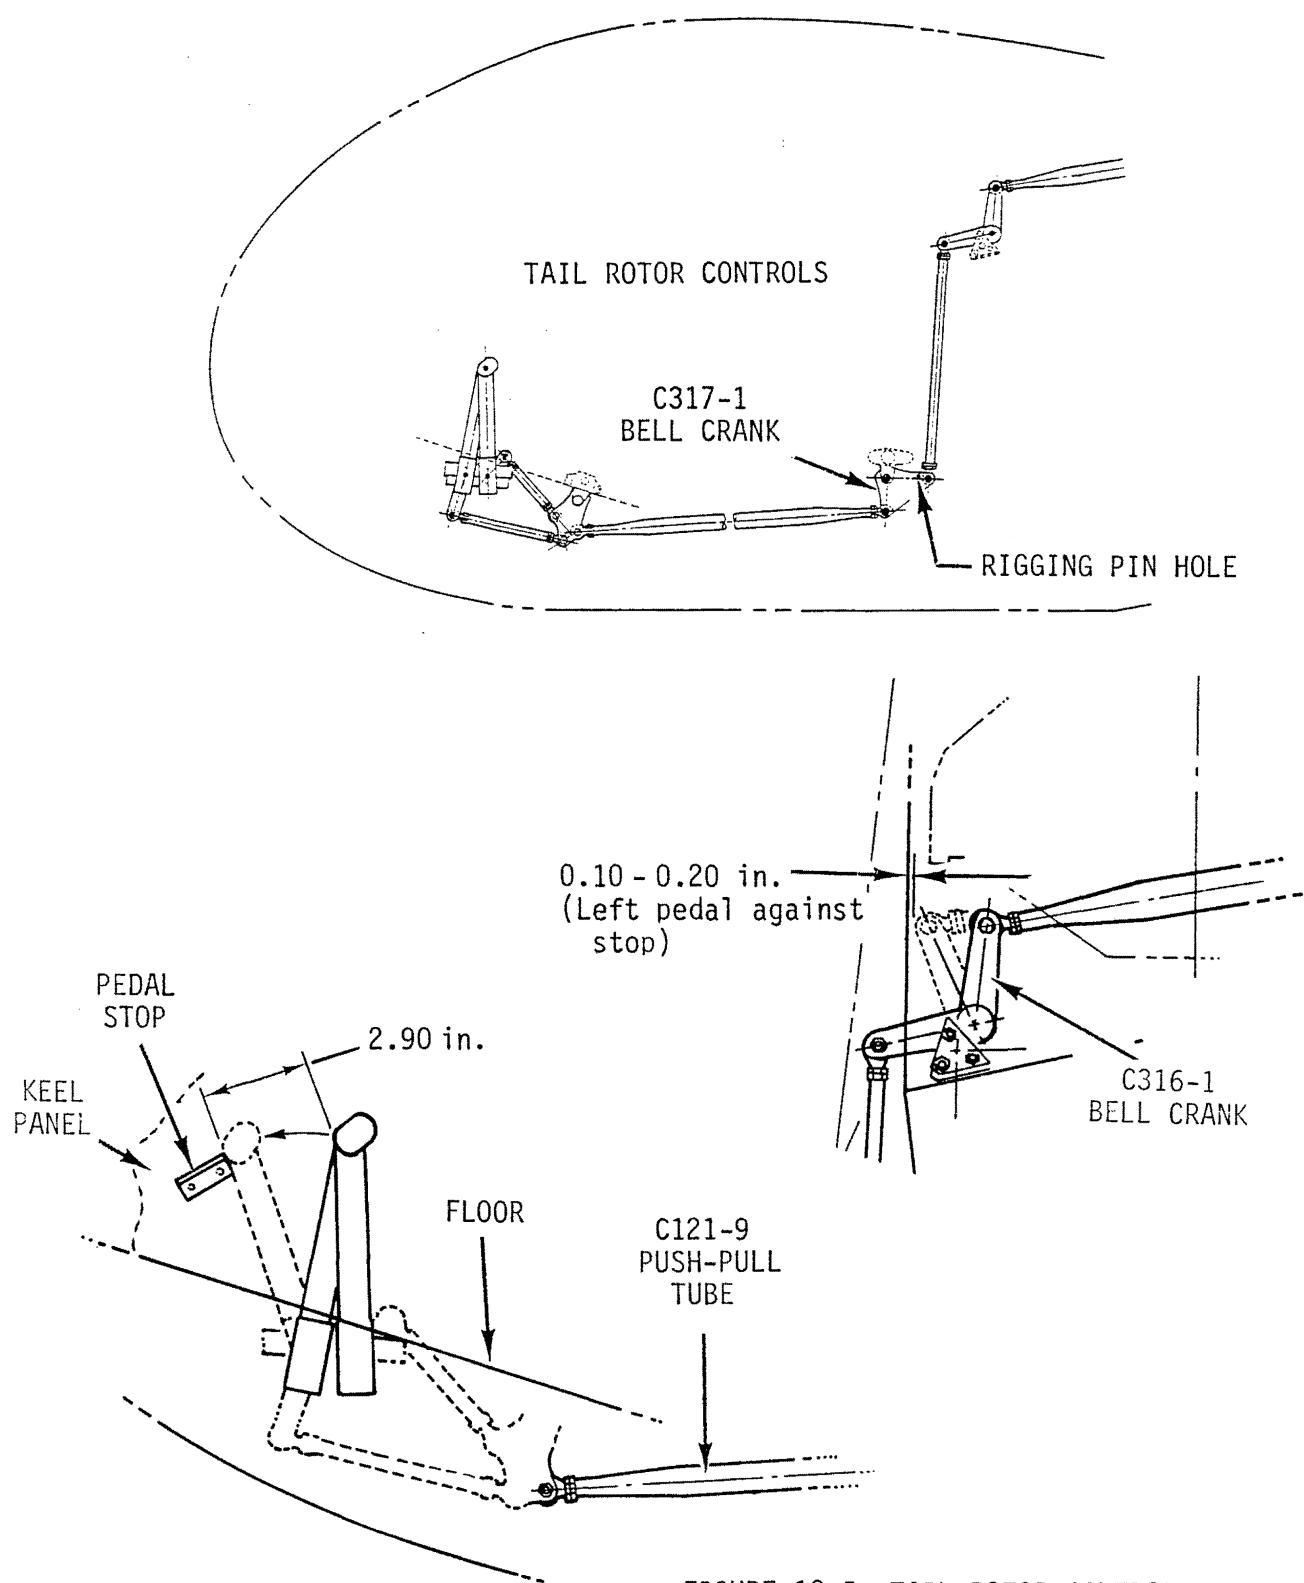

FIGURE 10-5 TAIL ROTOR CONTROL PEDAL RIGGING
10.130 Tail Rotor Flight Controls10.131 Pedals (See Figure 10-5)
10.132 C316 Bellcrank (See Figure 10-5)